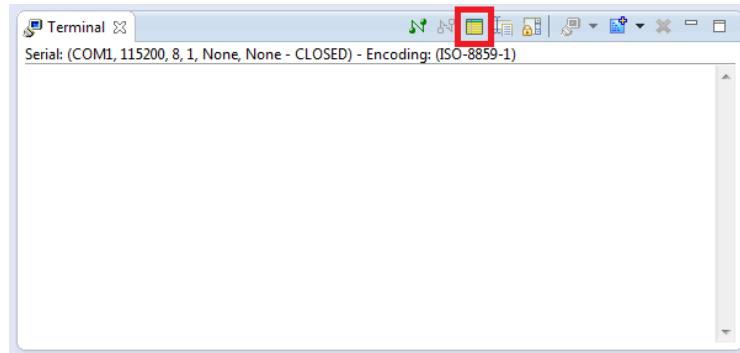

Figure 13-7. ARM DS-5 Serial Terminal
59. We will use the built-in serial terminal available in *ARM DS-5*. Go to “Window > Show View > Other... > Terminal > Terminal” to open *ARM DS-5*'s the built-in serial terminal. You should see the terminal shown in Figure 13-7.